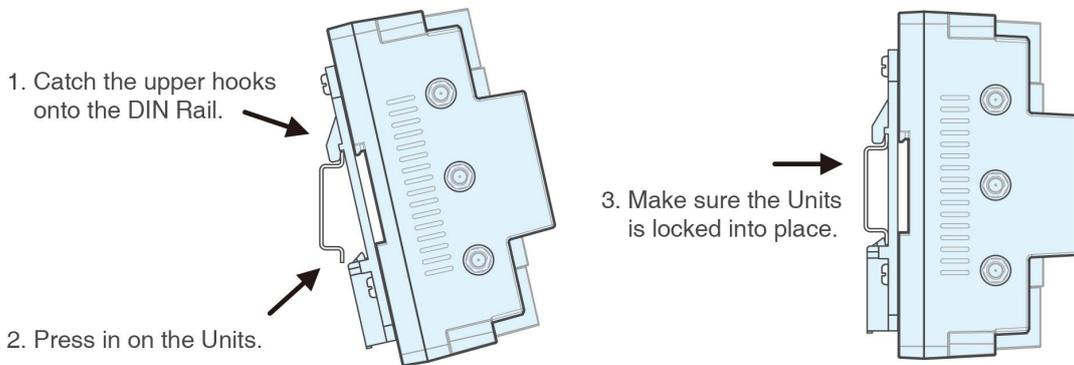

Figure 3-5 Mount the Units to the original 35mm DIN rail
3. Snap the mounted units into the original 35mm DIN rail, as shown in **Figure 3-5** below.